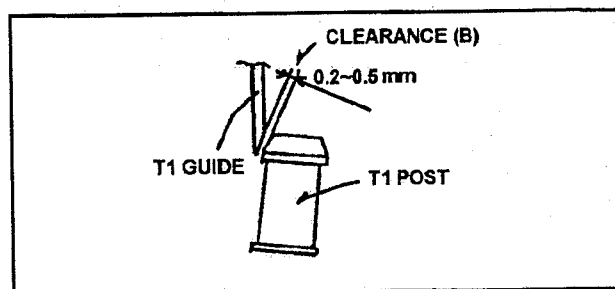

Fig. M19
1. Observe the clearance (B) between T1 Guide and T1 post as shown in Figure M19. And make sure that it is within 0.2 to 0.5mm.
2. If not loosen the 2 screws (A) and adjust the position of T1 Guide by moving to arrow direction (G ⇌ G) so that the clearance (B) is within specification. And tighten the 2 screws (A).